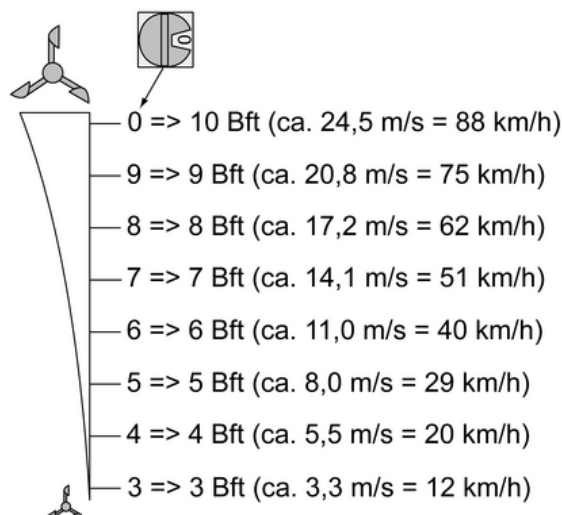

Figure 5: Wind speed setting
- Using the rotary switch (9), set the wind speed at which the blind/shutter is to move to the protected end position (Figure 5). The setting is made in Beauforts Bft.